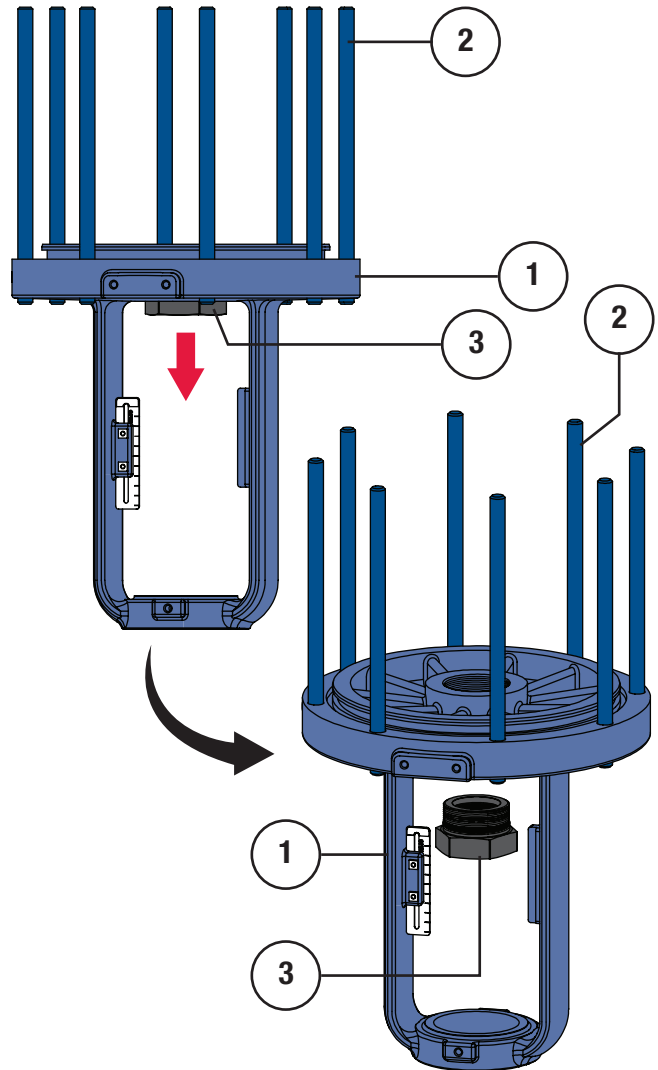

Figure 16 Bushing Removal
- 9 Remove the bushing (Key 3). Refer to Figure 16.